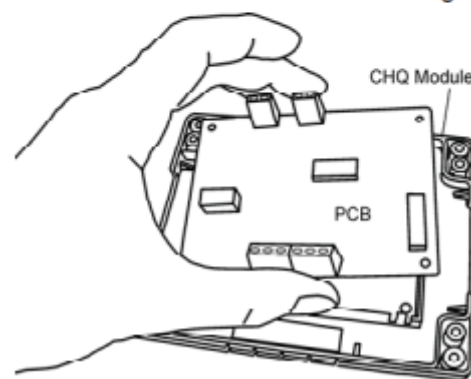

Fig 2
- Hold the PCB by the plastic terminal blocks (see Fig 2) and carefully remove from the CHQ Module housing.